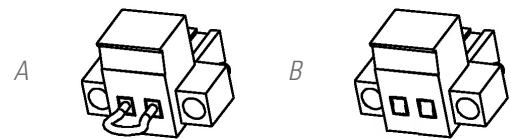

Fig. 19. Connector for the external EPO.
- Or by removing the own female connector from the equipment, because this connector includes a cable as a bridge mode, which closes the electrical circuit [see Fig. 19-A].
- Or when pressing the external button, which belongs to the end-user and it is installed between the terminals of the connector [see Fig. 19-B]. The connection of the